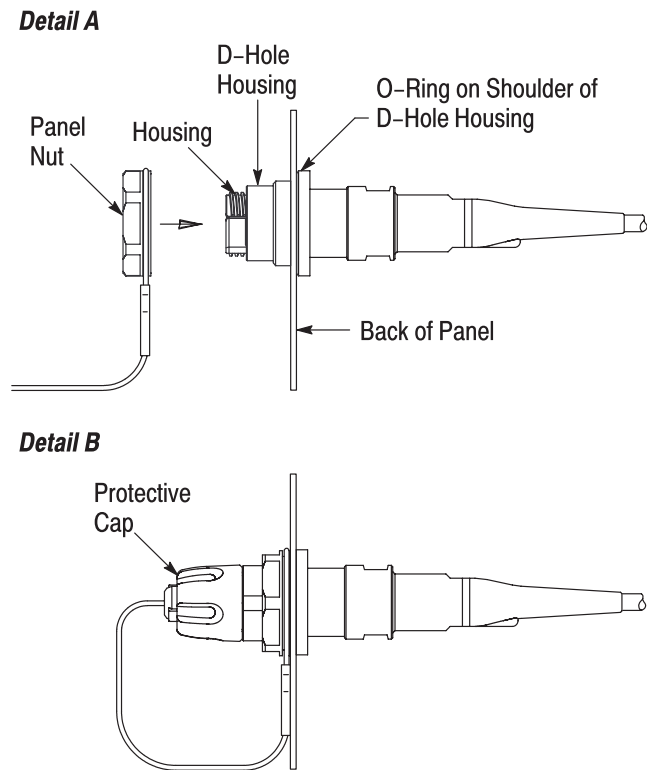

Figure 18
2. Install the connector through the back of the panel so that the O-ring attached to the shoulder of the D-hole housing is flat against the panel. See Figure 18, Detail A.
3. Thread the panel nut onto the D-hole housing. See Figure 18, Detail A. Tighten the panel nut to a torque of approximately 40 N-m. The O-ring should be compressed.
4. Thread the protective cap onto the housing, then hand-tighten the protective cap as shown in Figure 18, Detail B.